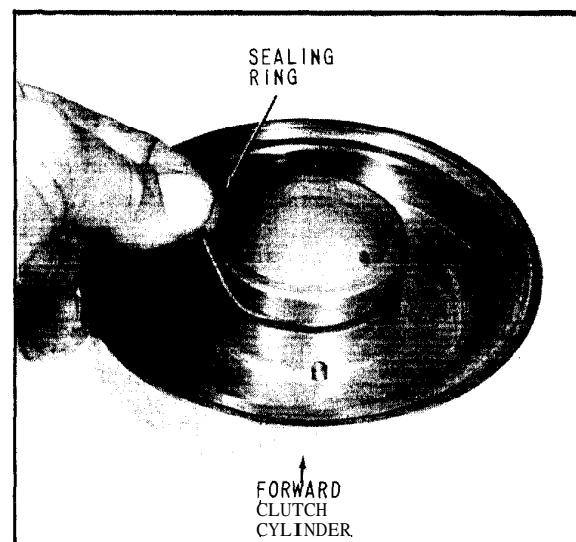

Fig. 40 Installing Sealing Ring
26. Install in forward clutch cylinder a well lubricated sealing ring, (Fig. 40). Lubricate entire forward clutch cylinder before continuing assembly.